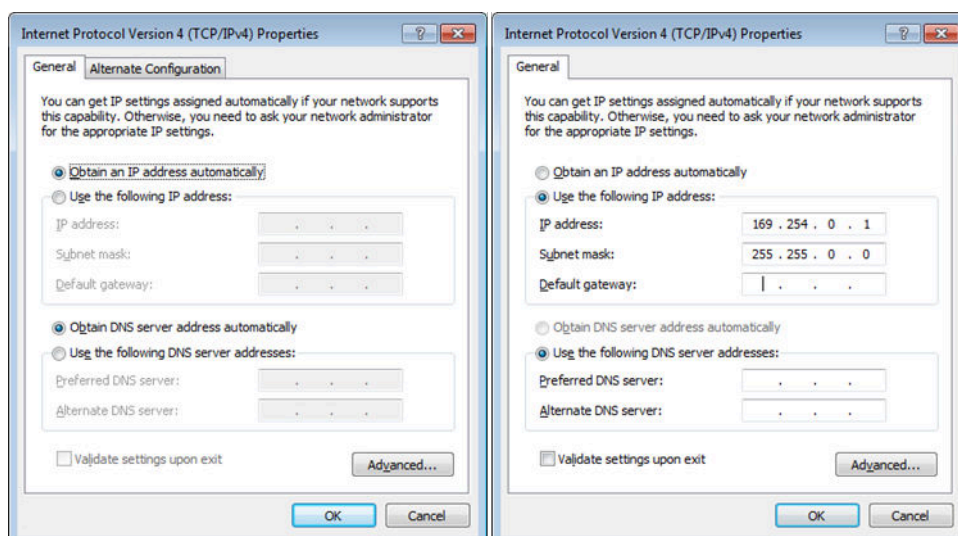

Figure 115: Internet Protocol Version 4 (TCP/IPv4) properties
4. By default the interface is configured to obtain an IP address automatically by a DHCP server, shown in Figure 115, usually provided by routers or dedicated servers. A fixed IP address and Subnet mask can be entered like shown in Figure 115 right, after choosing *Use the following IP address*.